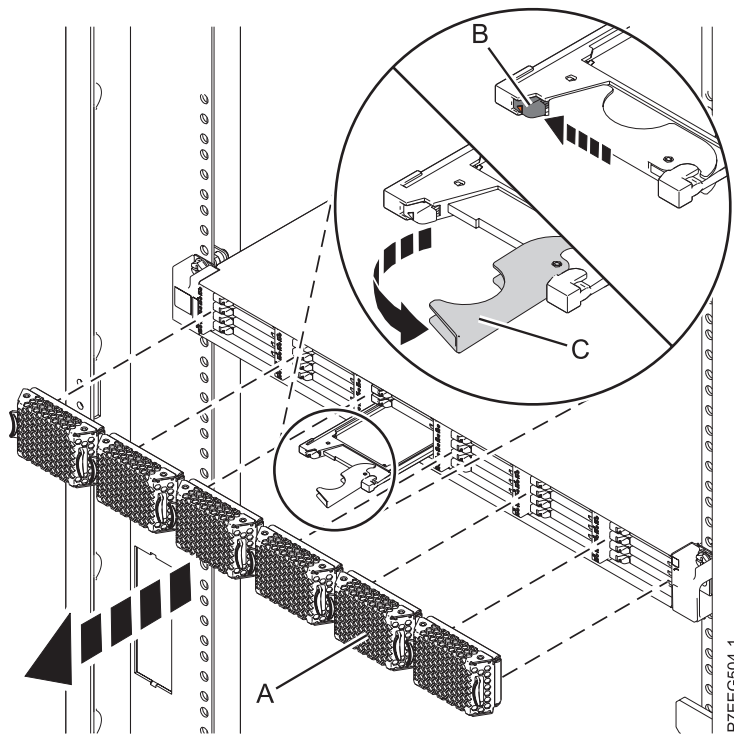

Figure 26. Removing the solid-state drive from the EDR1 PCIe storage enclosure
- Pull off the bezel (A) that covers the slot containing the solid-state drive.
- Slide the release latch (B) over gently to unlock the drive handle. See Figure 26 on page 39.